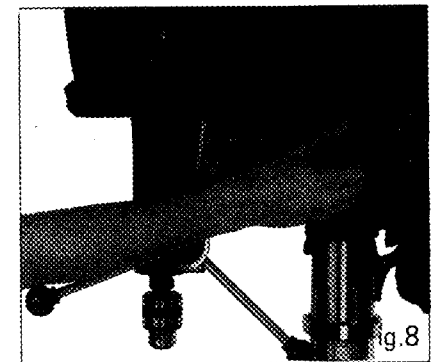

Fig. 8
* Screw knob on each feeding handle, install them into hub of pinion shaft. Fig. 8.